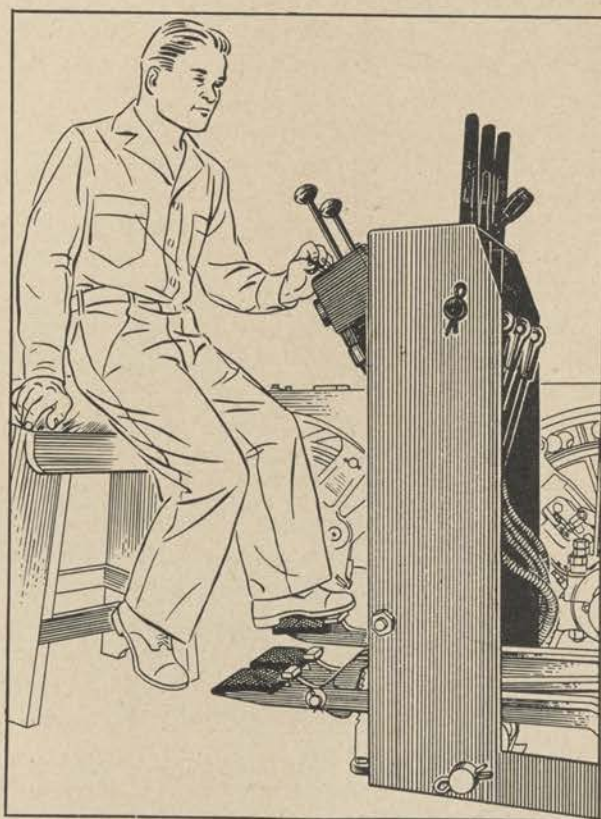

Figure 82. Raising the whip hook.
(6) *Hoisting whip hook* (fig. 82). (a) Release the catch on the whip foot pedal and hold the pedal (fig. 61) in place.